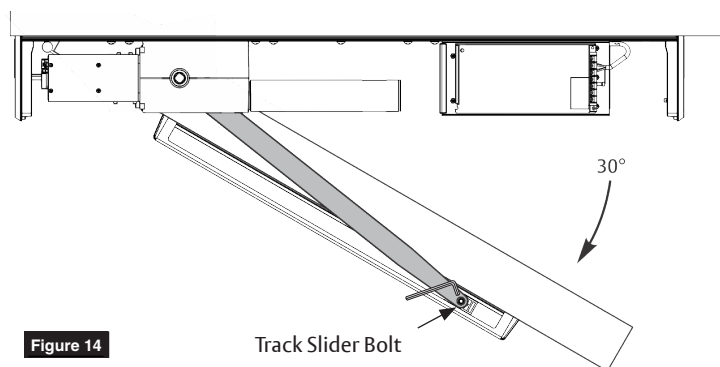

Figure 14
4. Open door approximately 30 degrees and attach arm to slider in track. Use hex wrench to tighten slider bolt counter clockwise until slide is tight in arm. (Figure 14)